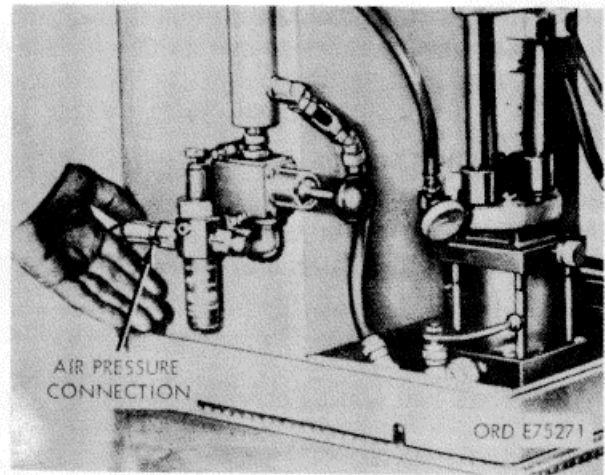

Figure 3-66. Test stand air pressure connection.
(4) Fill cam box with 3 inches of OE lubricating oil. Refill with oil level drops to glass.
(5) Plug electrical connection into reel carrying necessary voltage to operate test stand
(6) Before clamping on injector in test stand must be timed by rotating timing wheel so mark and pointer are aligned as shown in figure
(7) Shop air pressure regulated by air regulator is used to apply balanced force on hydrl system, (fig. 3-66). Air gage at top of hydraulic I voir is used as a reference indicating that pre has not changed after being set using a load tei during test stand calibration.